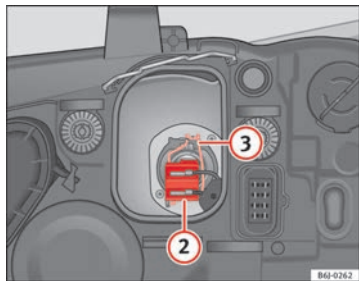

Fig. 162 Dipped beam headlights
- Remove the connector ⇒ fig. 162 ② from the bulb.
- Unclip the retainer spring ⇒ fig. 162 ③ pressing inwards to the right.